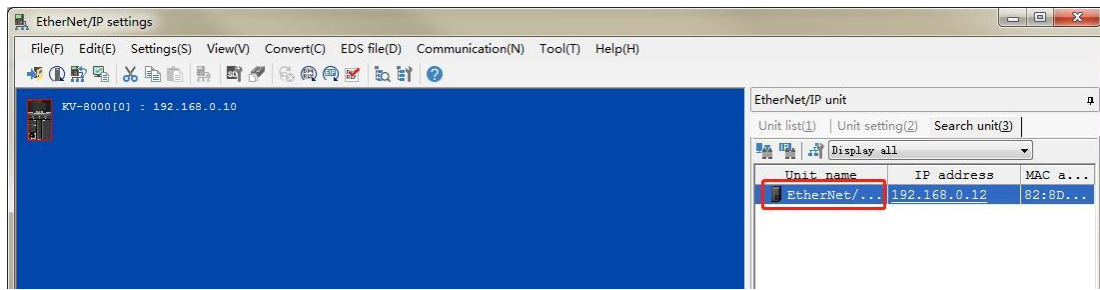
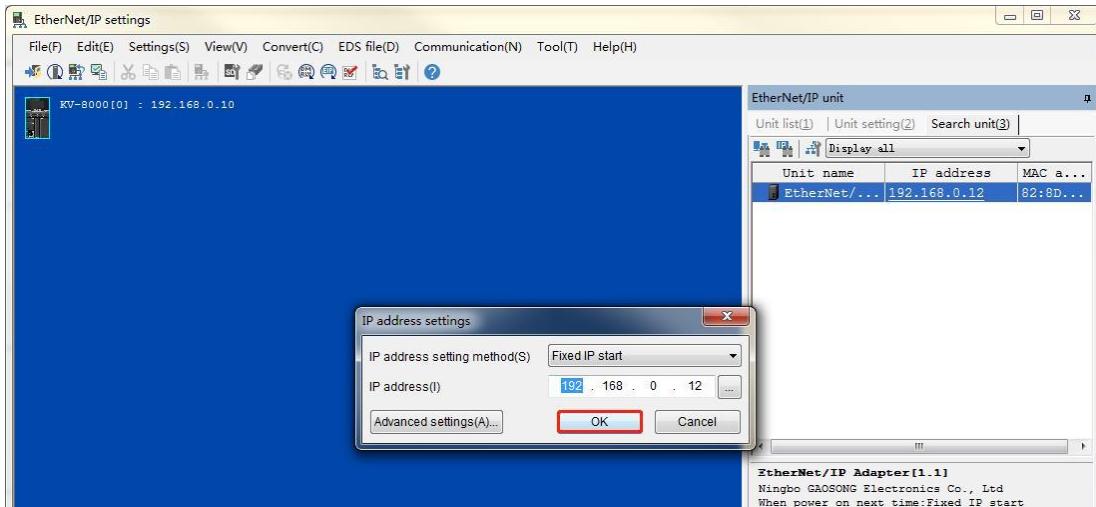

Figure 5-1-19
Figure 5-1-20
- Add EIP coupler as shown in Figure 5-1-19 to Figure 5-1-20.